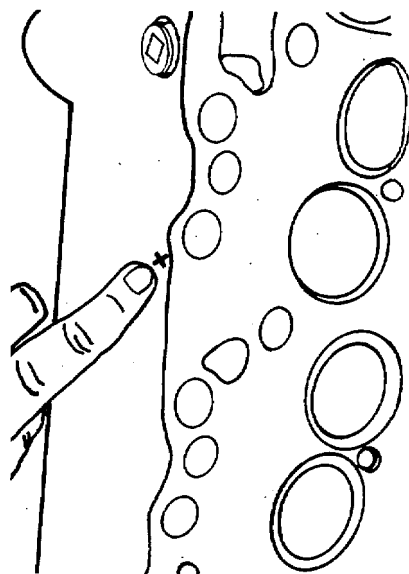

FIGURE 4-2. Marking Seats.
4-8. Repair Cylinder Head Group. (FIGURES 4-2 through 4-27)
- a. Mark valve seats that have been previously re-ground (FIGURE 4-2).
- b. Mark the valves to identify their position. (FIGURE 4-2).